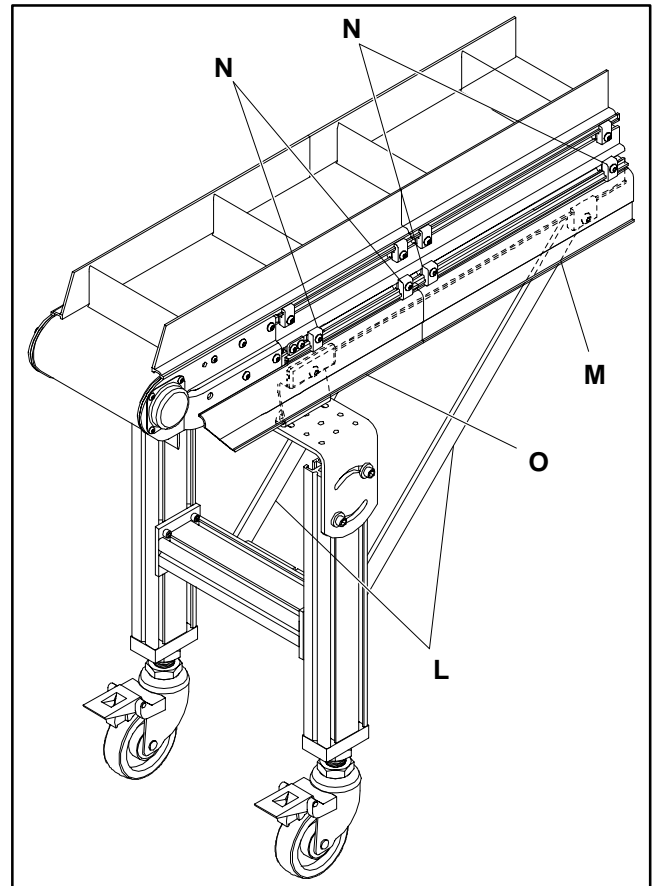

Figure 5: Aluminum Stand (with Casters and Diagonal Braces) Supporting Cleated Belt Conveyor with Return Belt Skirting
Dorner recommends adding diagonal bracing (L of Figure 5) to aluminum extruded conveyors whenever casters are used. Refer to page 14 for assembly details.
When a cleated belt conveyor is equipped with return belt skirting, the section of skirting (O of Figure 5) that is over the return belt roller assembly must be temporarily removed for access. Loosen the attaching hardware and rotate each guide retaining clip (N) to detach the skirting section.